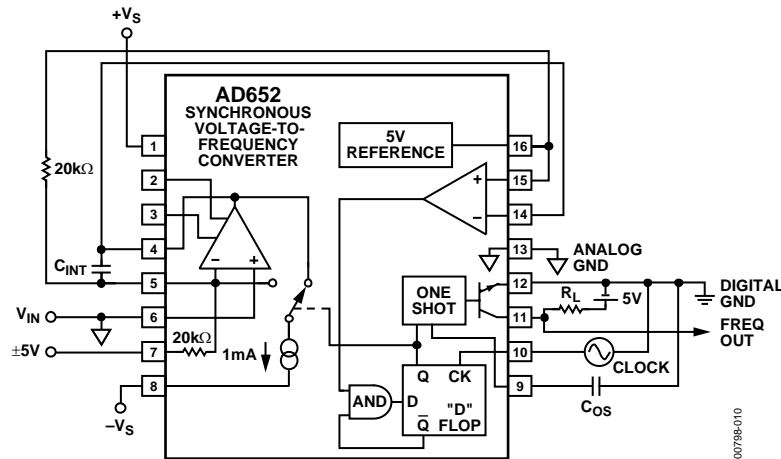

Figure 10. Bipolar Offset
A bipolar input voltage of  $\pm 5\text{ V}$  can be accommodated by injecting a  $250\ \mu\text{A}$  current into Pin 5 (see Figure 10). A  $-5\text{ V}$  signal provides a zero sum current at the integrator summing junction, which results in a zero-output frequency; a  $+5\text{ V}$  signal provides a  $0.5\text{ mA}$  (full-scale) sum current, which results in the full-scale output frequency.
1. Use an external resistor for  $R_{OS}$  and the internal  $20\text{ k}\Omega$  resistor for  $R_{IN}$  (as shown in Figure 10).